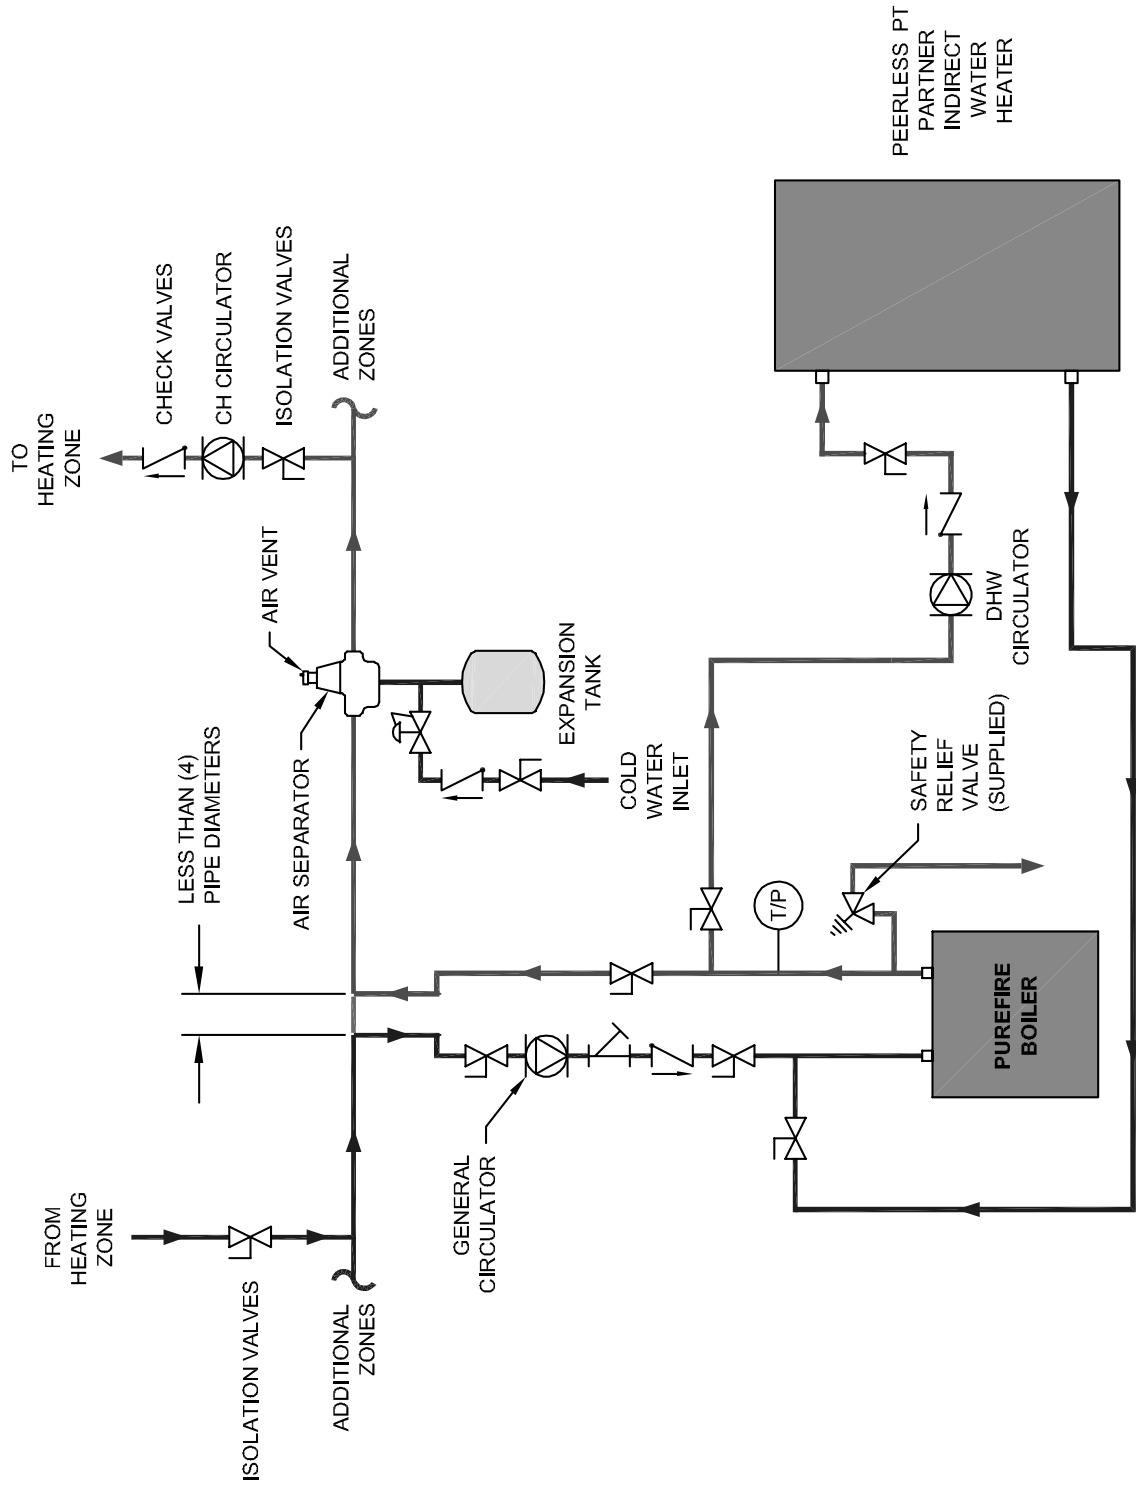

Figure 4.5: Alternate Piping – One Boiler, Primary/Secondary with a Peerless® Partner® (Zone Circulators).
2. For a single boiler with one heating zone and one DHW zone which utilizes an indirect water heater like the Peerless® Partner®, pipe the boiler as shown in Figure 4.5. In systems like this, the DHW circulator must be sized to provide the minimum flow rate through the boiler.